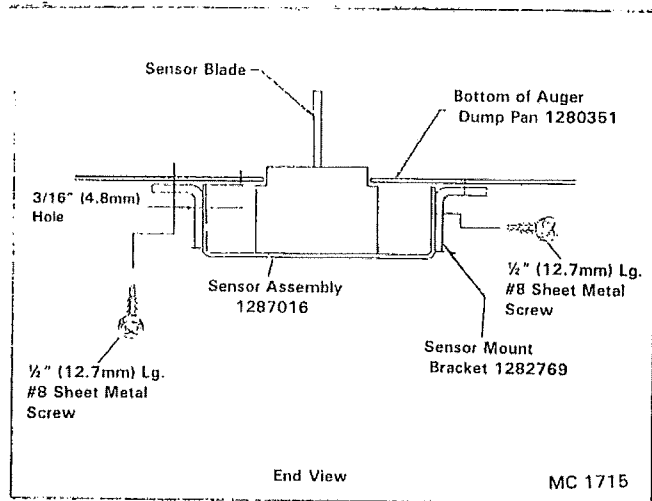

Figure 13 Sensor and Sensor Mounting Brackets
1. The Sensor for the Moisture Monitor is shipped fastened to the right rear side of the dryer base. Once dryer is in position at the drying site, the Sensor can be installed. See Figure 13.
2. The rear 8 ft. (2.44m) Discharge Auger Pan has a Cover Plate over the rectangular cutout for the Sensor. The (2) Sensor Brackets #1282769 are used to hold the Cover Plate in place. Remove the (4) #8 sheet metal screws from the (2) Sensor Brackets and discard the Cover Plate. Replace the (2) Sensor Brackets that were just removed.
3. Disconnect the Sensor from the shipping position. The Sensor will be mounted to (2) #1282769 Sensor Brackets that have been attached to the outside bottom of the Auger Pan on each side of the rectangular cutout. Place the Sensor into the cutout and attach Sensor to brackets with (4) #8 x 1/2" (12.7mm) screws.